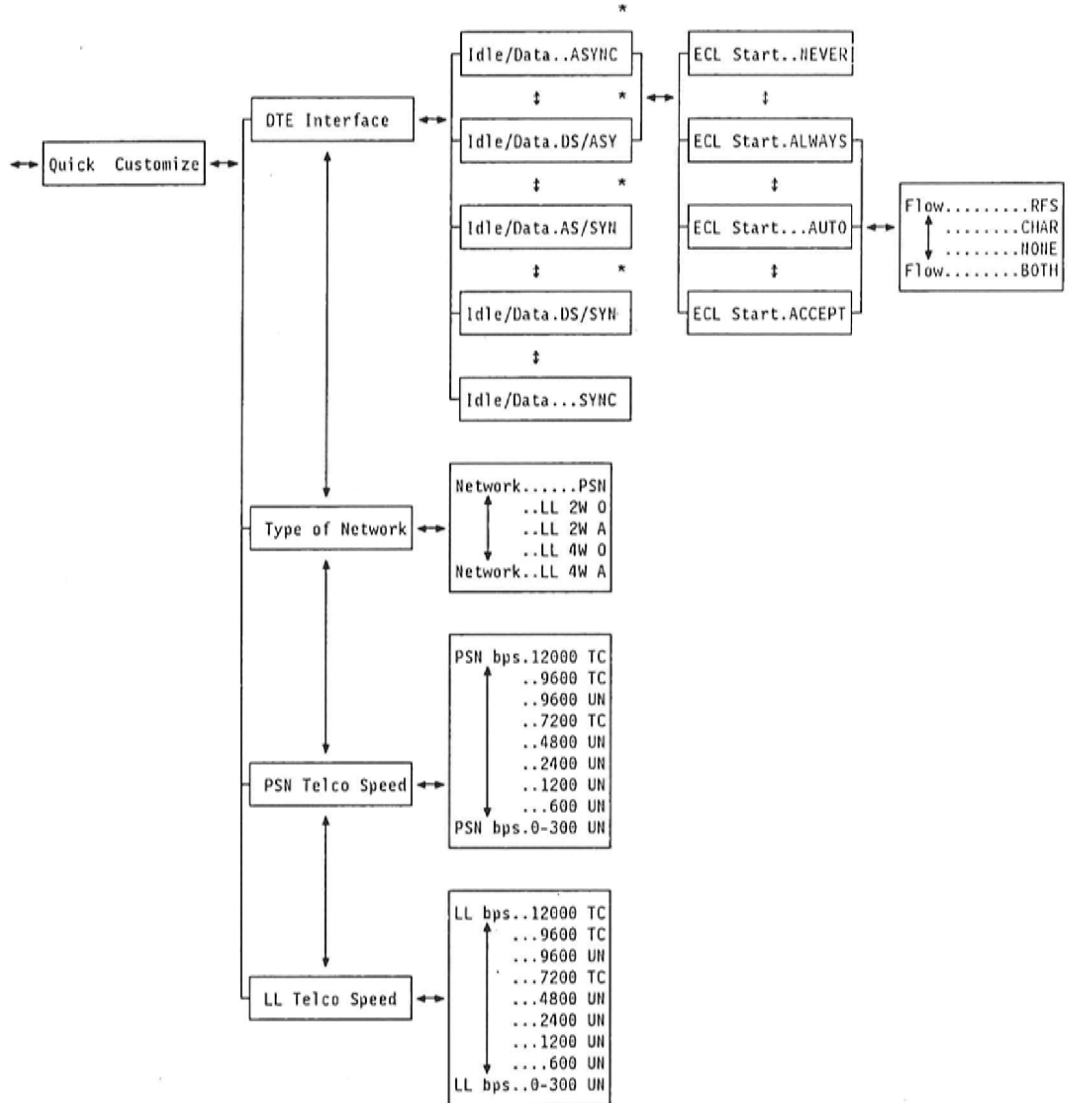
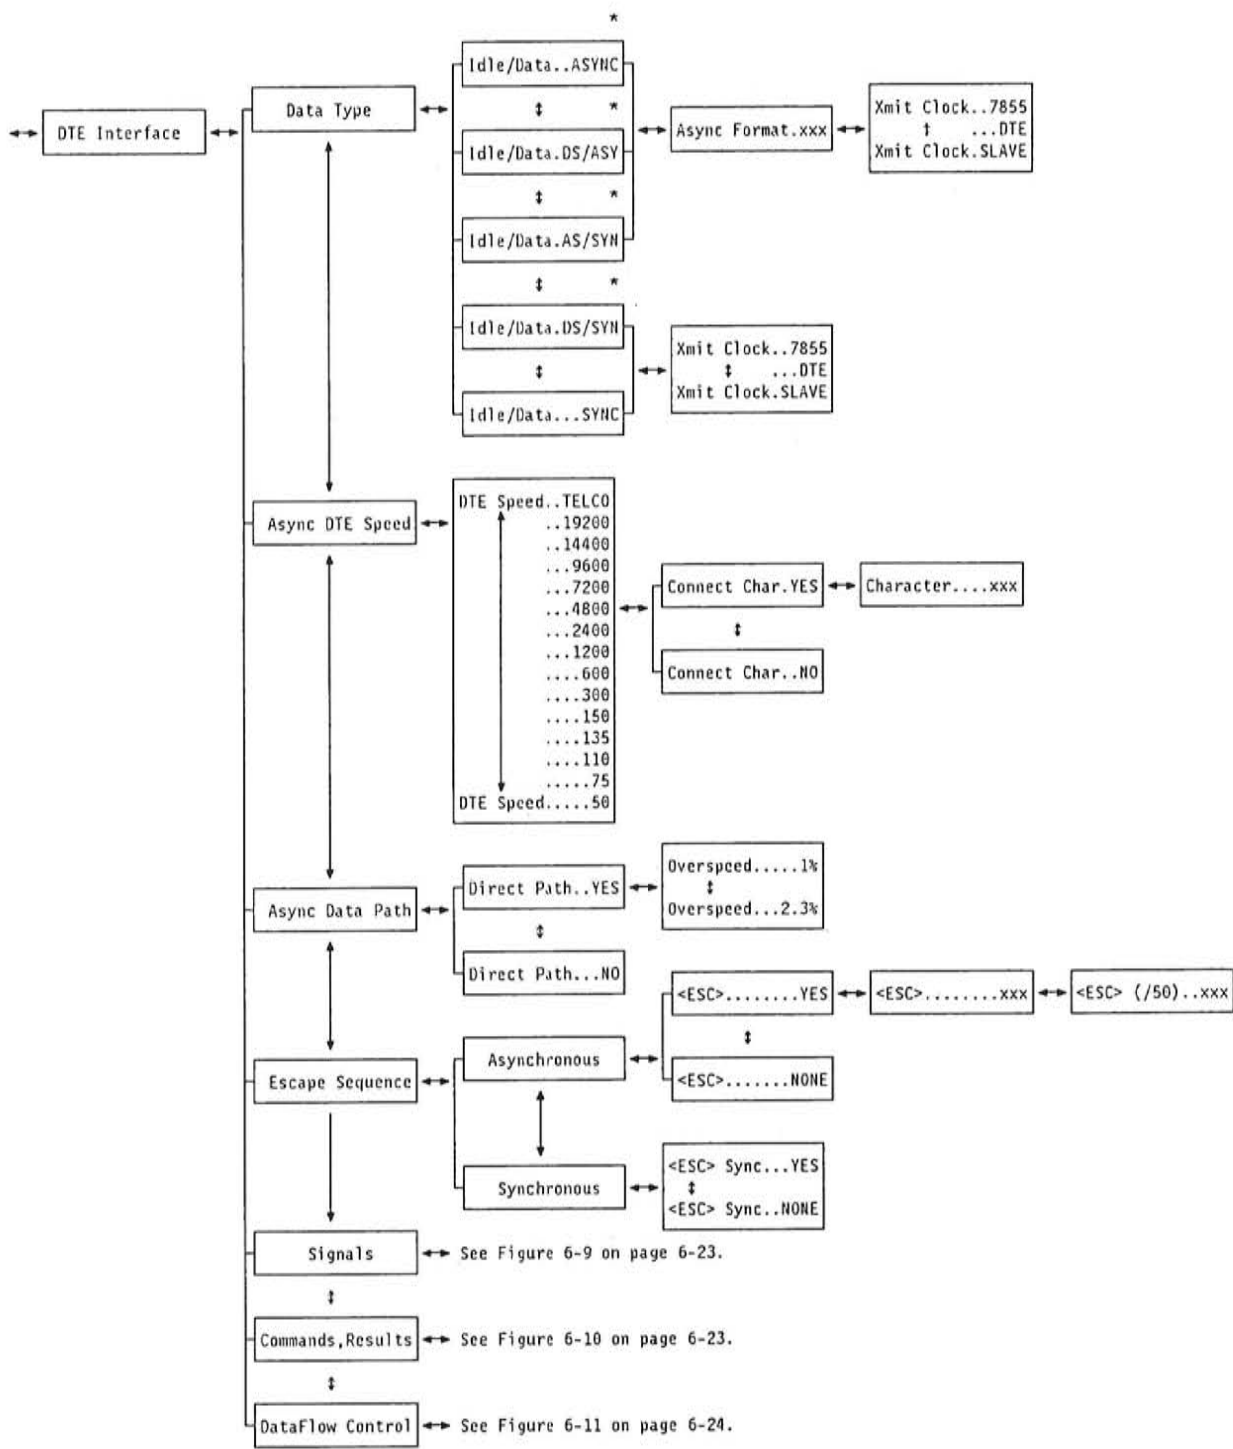
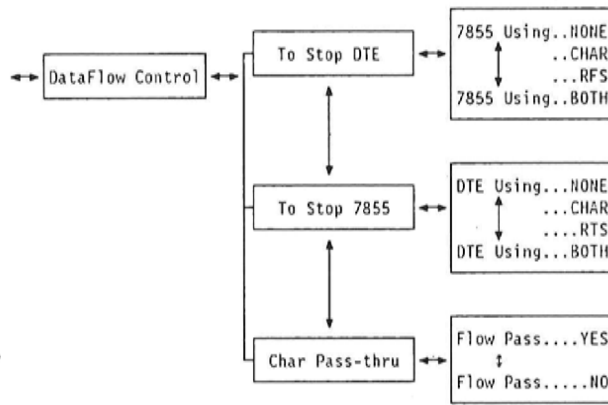
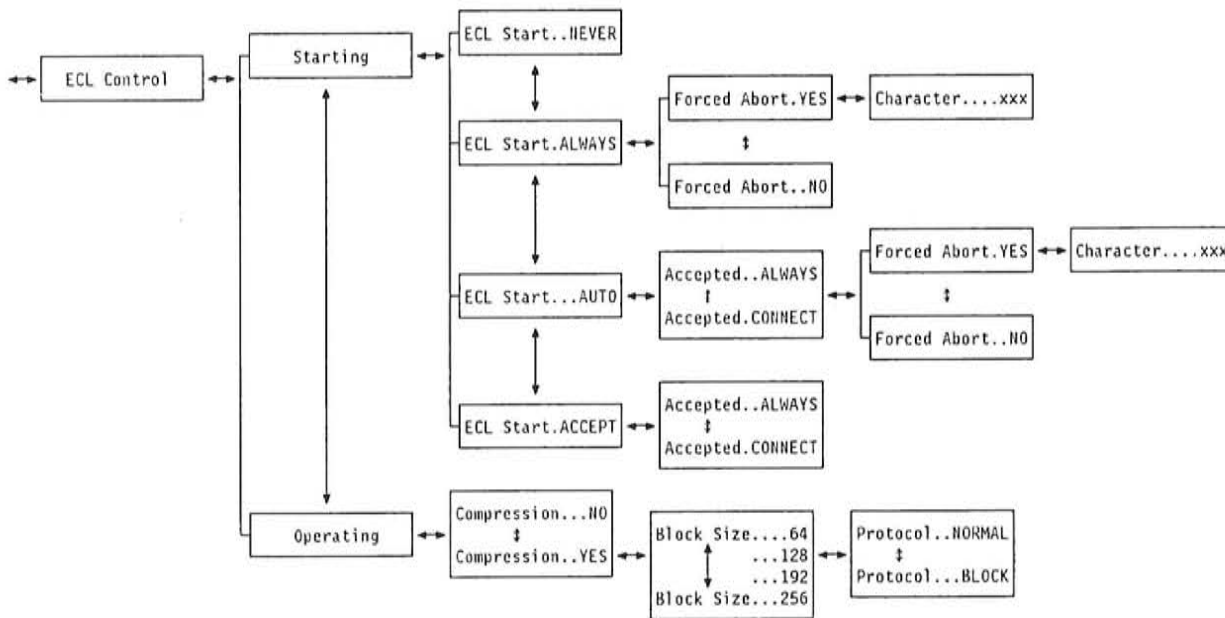

Figure 6-6. The Quick Customize Selections
Figure 6-8. Data Type, Asynchronous DTE Speed and Data Path, and Escapes. The portion of the tree to the "left" of this menu is shown in Figure 6-7.
Figure 6-11. DataFlow Control for the DTE Interface. The portion of the tree to the "left" of this menu is shown in Figure 6-7.
Figure 6-16. ECL Control. The portion of the tree to the "left" of this menu is shown in Figure 6-7.
**Configuration for Nonswitched Operation:** In the First Setup menu, use the ↑ or ↓ button to make the display show Get Profile and then press → and then use the ↑ or ↓ button to display Profile.....LL and then press ←. The modem is now set for synchronous operation as the originate modem for a 2-wire non-switched telecommunication network. Remember that for nonswitched operation, one modem must be set to originate and the other to answer mode handshaking and that a V.32 modem such as this one should be used with point-to-point (not multi-point) telecommunication lines. You can make this change in the Quick Customize menu which is shown in Figure 6-6 on page 6-17. When you leave the tree structure as described in "Leaving the Configuration Tree (Returning to Operate Messages)" on page 6-11, remember to save working memory in profile 0.
You must use the choices shown in "The First Setup Menu" on page 6-12 to set the basic synchronous or asynchronous operation of the modem. The modem does not allow you to change its behavior to or from the IDLE/DATA...SYNC choice from the DATA TYPE in Figure 6-8 on page 6-22.
See Figure 6-8 on page 6-22.
See Figure 6-6 on page 6-17 or Figure 6-12 on page 6-24.
See Figure 6-6 on page 6-17 or Figure 6-16 on page 6-28.
See Figure 6-6 on page 6-17 or Figure 6-8 on page 6-22.
See Figure 6-6 on page 6-17 or Figure 6-11 on page 6-24.